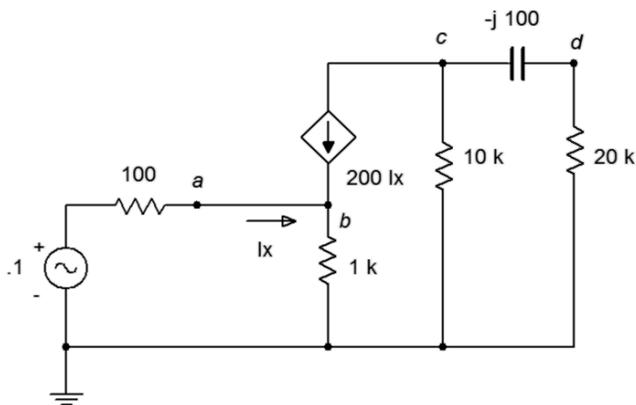

Figure 6.26
58. In the circuit of Figure 6.26, determine  $v_d$ .
59. Given the circuit in Figure 6.26, determine the current flowing through the 1 kΩ resistor.